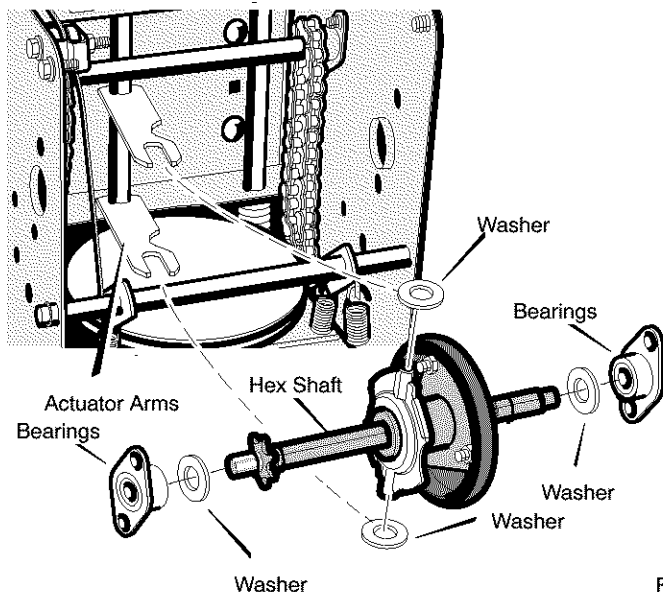

Figure 55
14. Install the **hex shaft** and **bearings** with the four bolts removed earlier (see Figure 55).